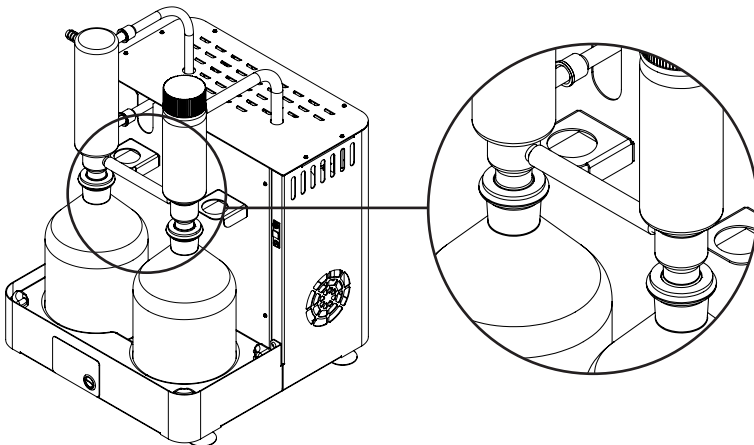

Fig. 13.2
- After placing Condenser and Carbon bottle onto the bottles fix them with GL14 or Viton Tubing. (As shown in fig. 13.2)